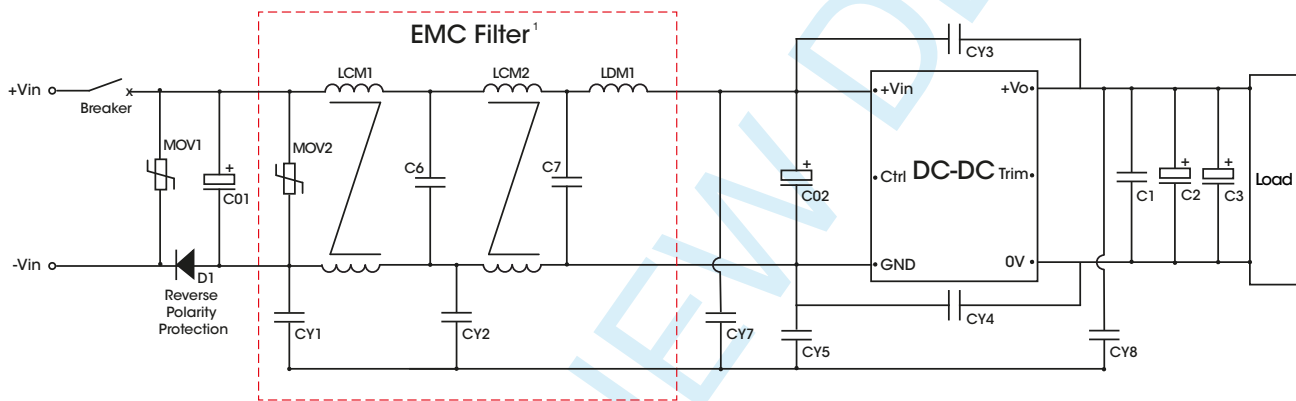

Figure 6. Recommended EMC Filtering
2. EMC Filter will be provided in a modular form, here is a recommended circuit and parameters, as shown in Fig. 6. Users can also build it themselves.